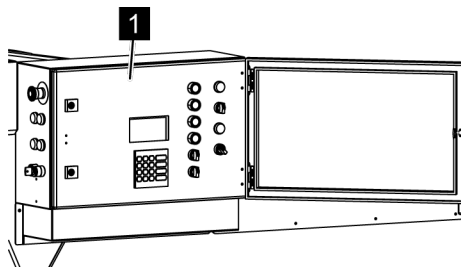

Fig. 150: Opening the door
2. ➤ Open the door (Fig. 150/1) of the bottom control with the included double bit key ( ↪ Chapter 4.6.1 'Keys' on page 66).